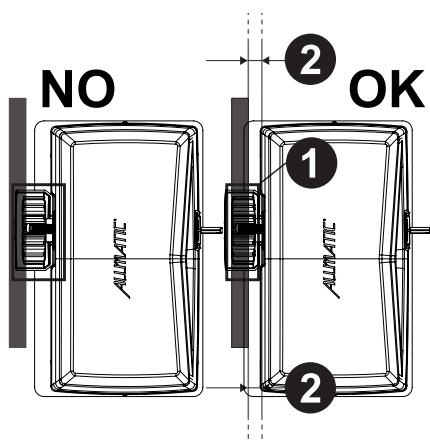

Fig.8
To fix the motor to the counterplate, insert and screw the 4 nuts (Fig. 5). Position the motor in parallel with the gate and with the gear under the rack as shown in Fig. 8.
- 1** WARNING! Position the motor with the pinion under the rack as shown in figure 8